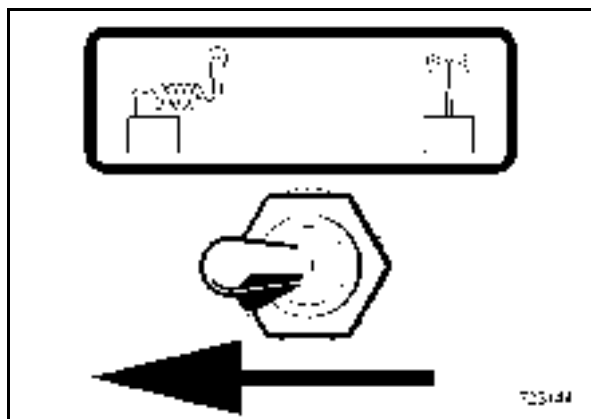

Fig. 32
- For cable operation of the machine switch the toggle switch (Fig. 32) to the left.